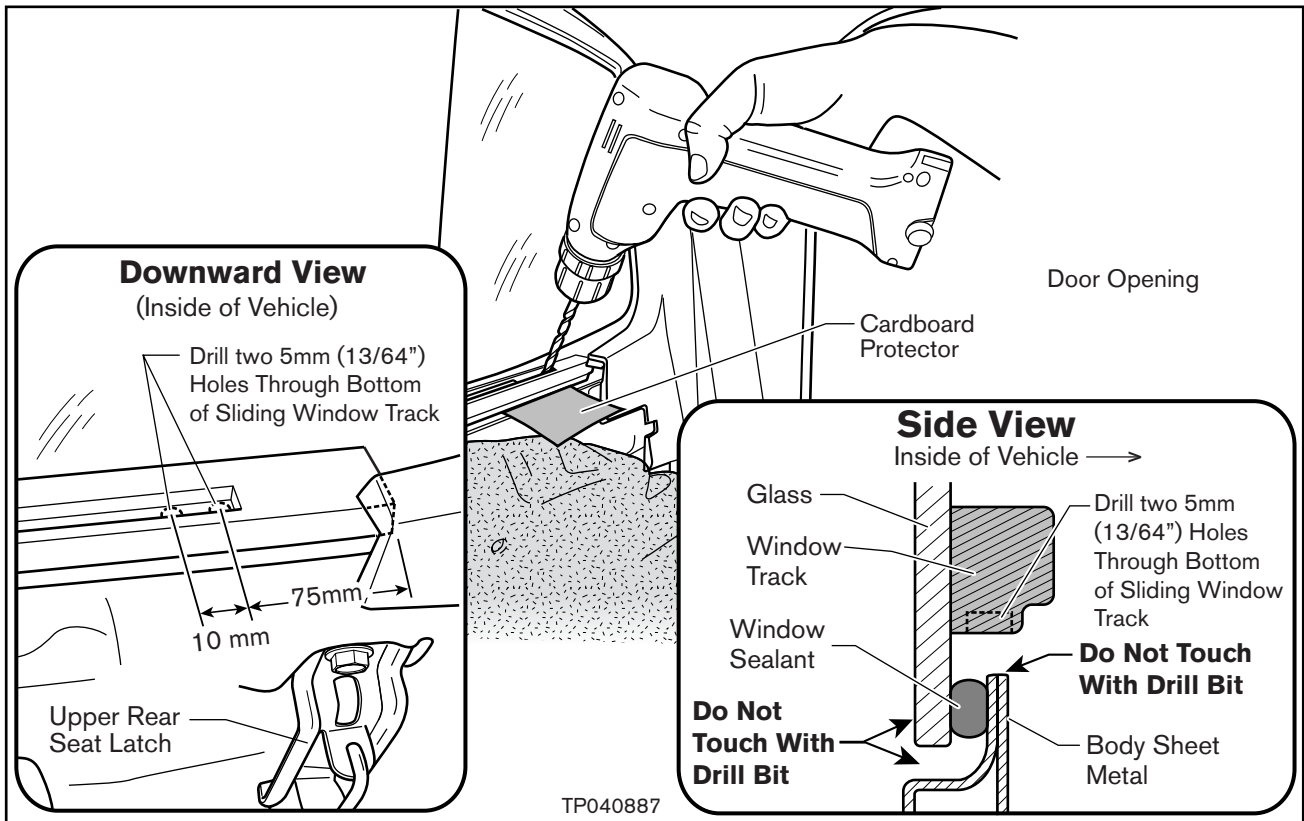

Figure 4
- a. Place a Cardboard Protector between the lower Sliding Window Track and the vehicle body sheet metal (pinch weld). See Figure 4.
- b. Very carefully drill two 5-mm (13/64") holes in the bottom of the lower Sliding Window Track at the locations shown in Figure 4.
CAUTION: Do NOT drill into the body sheet metal with the drill bit (see Figure 4).